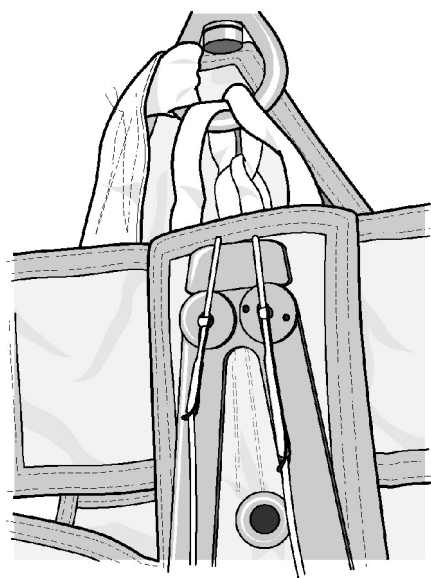

Figure 22. Safety Ties
g. Safety tie the terminal pin on power cable and MOR cable using one turn nylon size A, three half-hitches followed by an overhand knot (Figure 22).